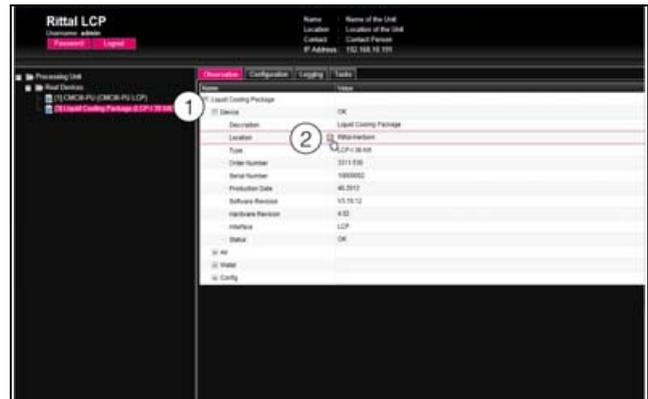

Fig. 71: Selecting an individual parameter
- One after the other, open the "Liquid Cooling Package" and "Device" entries by clicking on the "plus" symbol in front of the entry (fig. 71, item 1).
- Position the mouse pointer at the end of the first column in the "Location" line (fig. 71, item 2).